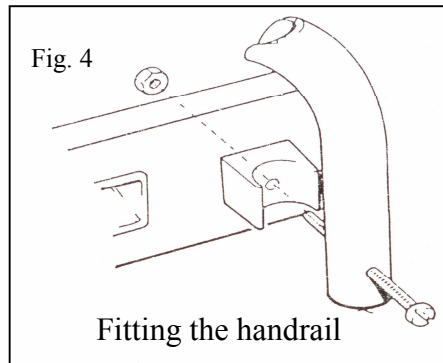

Fig. 4
- The optional handrail can be fitted as shown in Fig. 4